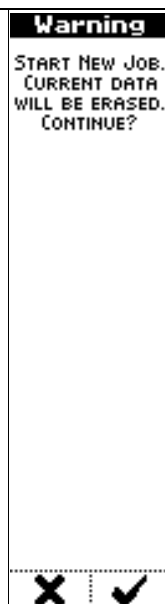

Fig. 7
- the "Zero" icon resets the current recording. A conformation request is issued as in Fig. 7.